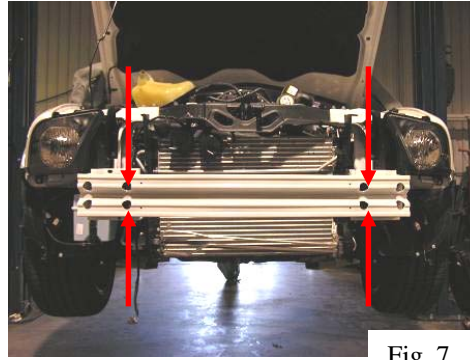

Fig. 7
- 18) Using a 13mm deep well socket, remove the two bolts closest to center on each side that attach the front bumper to the frame (Fig. 7).